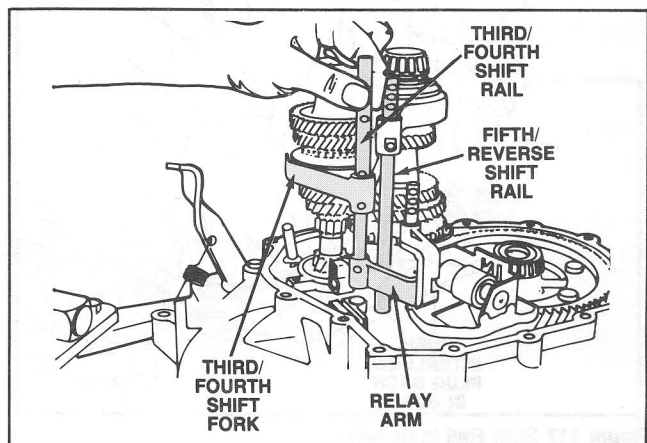

Figure 124 Install Shift Rail
15. Pivot the third/fourth shift rail into position and push it into the bore. (Figure 124).